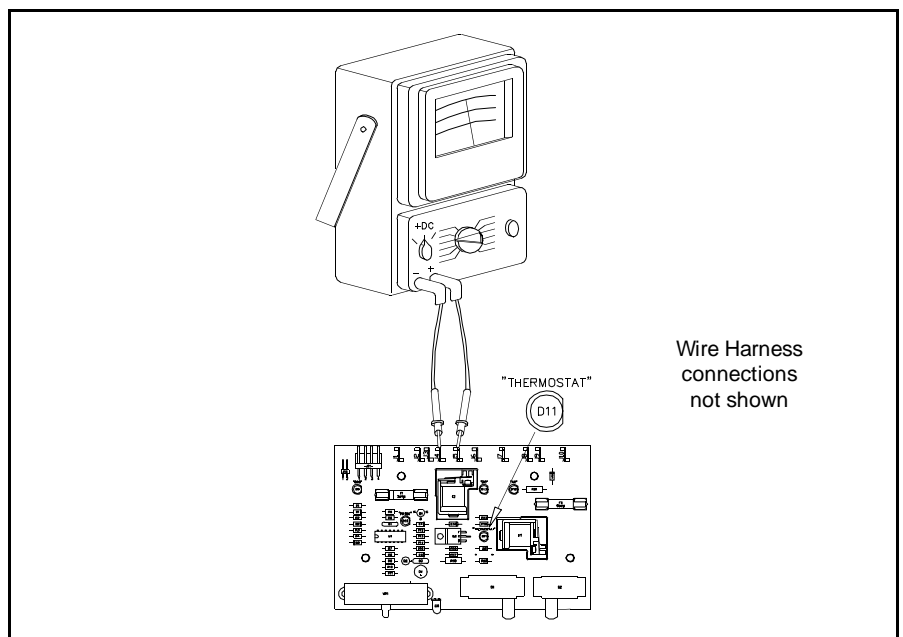

Figure 4.55 12 Volt DC Check at PC Board
6. Check for 12 volt DC between terminals J-4 (-) and J-5 (+) as indicated in Figure 4.55